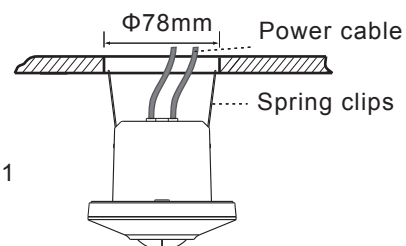

FIG. 11
- 3.4.2.4 Close up detector's two spring clips and insert the detector into the drilled hole on ceiling (See FIG.11).